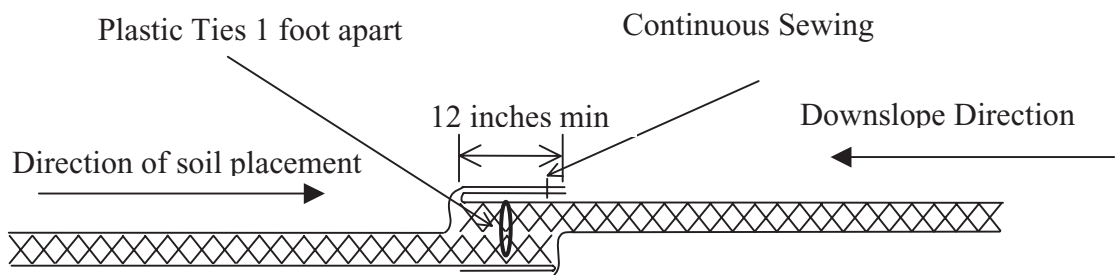

Figure 2 Overlap Along Roll Width (CD)
- Adjoining geonet/geocomposite rolls (end to end) along the roll width should have the geonet overlapped a minimum of 12 inches across the roll width, see Figure 2. Geonet should be tied every 12 inches across the roll width or as specified by the Engineer.